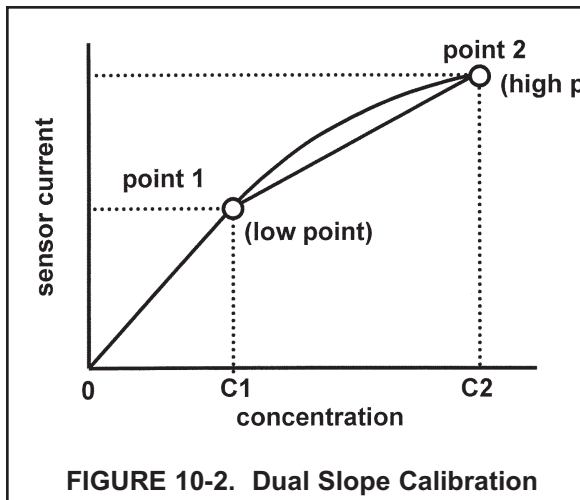

FIGURE 10-2. Dual Slope Calibration
Figure 10.2 shows the principle of dual slope calibration. Between zero and concentration C1, the sensor response is linear. When the concentration of chlorine becomes greater than C1, the response is non-linear. In spite of the non-linearity, the sensor response between C1 and C2 can be approximated by a straight line.
11. Adjust the chlorine concentration until it is near the upper end of the linear range, point C1 in Figure 10-2. Wait until the transmitter reading is stable before starting the calibration.
19. Adjust the concentration of chlorine in the sample until it is near the upper end of the control range (point C2 in Figure 10.2)